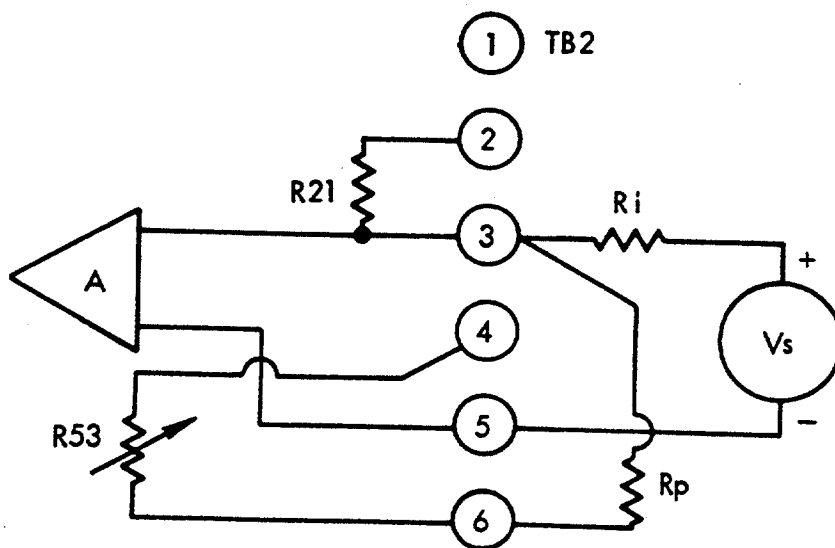

Figure 3-2 Variable Gain
b. Variable Gain (Figure 3-2)
- 3) Place R_i (1.78K suggested) in series with the signal source and connect as shown in Figure 3-2 between TB2-3 and TB2-5, observing the proper polarity.